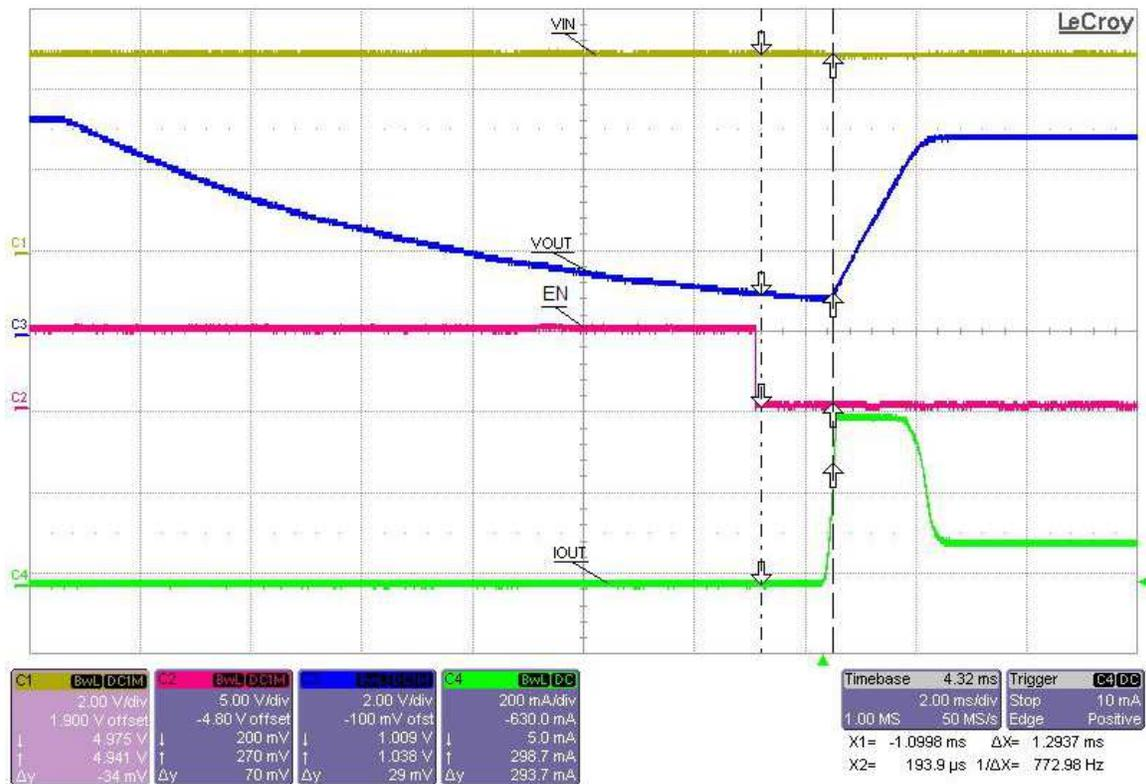

Figure 5. Unlatching When Output Decays
Figure 5 starts with the circuit latched from a fault, then unlatching when the output voltage (VOUT) drops lower than 1.1 volts. Once this occurs the enable drops first and then the USB power switch turns back on to allow current to flow in the forward direction.
Figure 5 shows that once the output voltage (VOUT) drops below 1.1 volts the enable (EN) is disserted. The measurement was then made showing that it took 1.3 ms for the USB power switch to turn on and allow current to begin flowing in the forward direction.